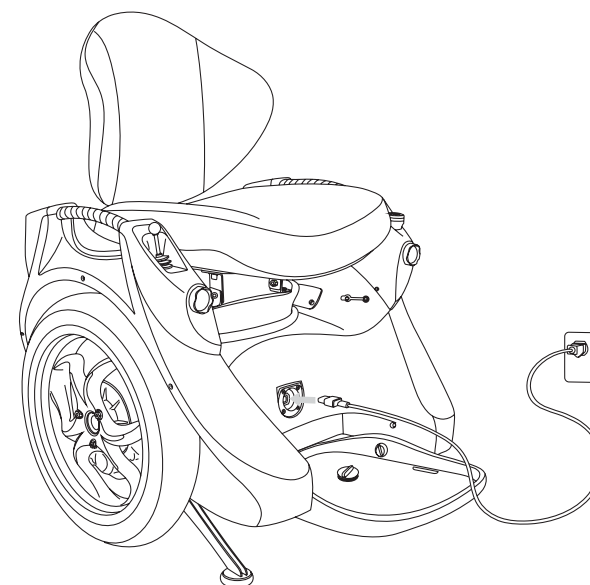

Figure 32: Charge your Omeo's Lithium-ion Batteries through the Main Charge Port at the front of the unit.
3. Open the Main Charge Port on the front of the Omeo (**see Figure 32**) and verify that the Main Charge Port, along with the Power Cord and AC Power outlet, are dry, clean, and free of any debris